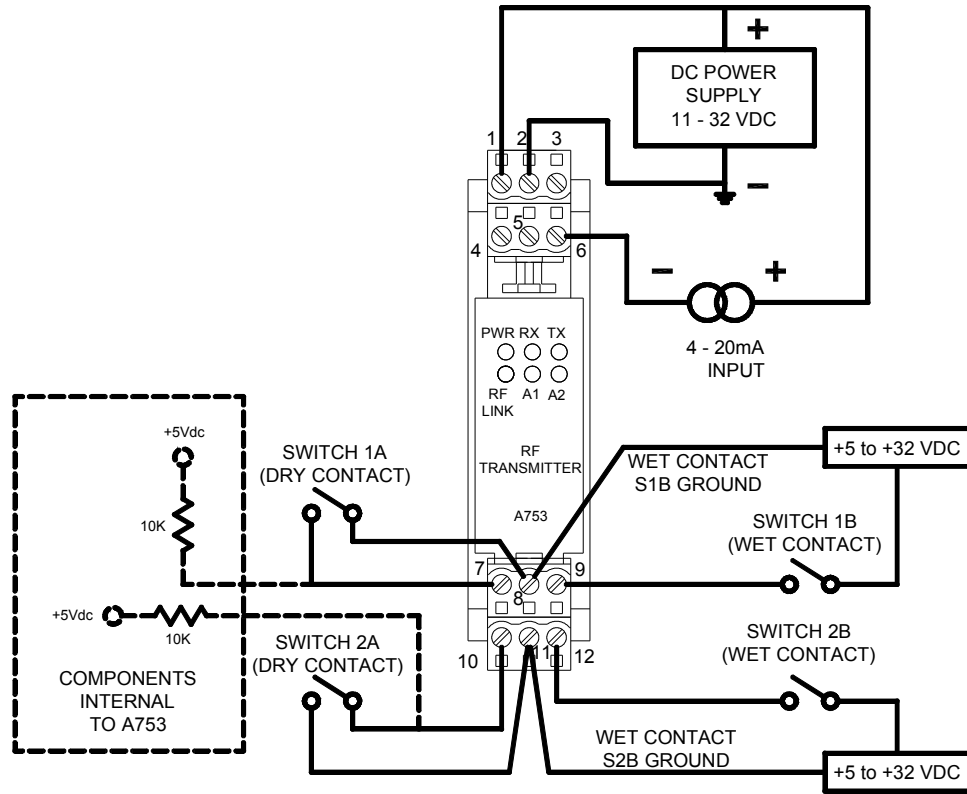

Figure 1 Transmitter connections.
Mount the transmitter on 35mm DIN rail. The connectors are removable for simple transmitter replacement. Figure 1 and table 1 show connections to the transmitter. One 4-20mA signal and up to two switches, wet or dry contact can be used at a time. Switches A1A and A1B should not be used at the same time; similarly switches A2A and A2B should not be used at the same time.
- 4.3.2 Connect calibration source to 4-20ma input (see figure 1, and table 1)